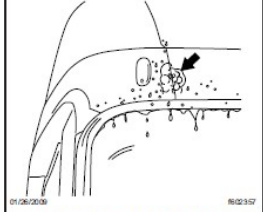

Fig. 1. Cab Water-Leak Detection with Wash Solution
6. Spray the cab, and sleeper if so equipped, with the wash solution, and look for bubbles. See Fig. 1. Inspect all applicable areas listed below: